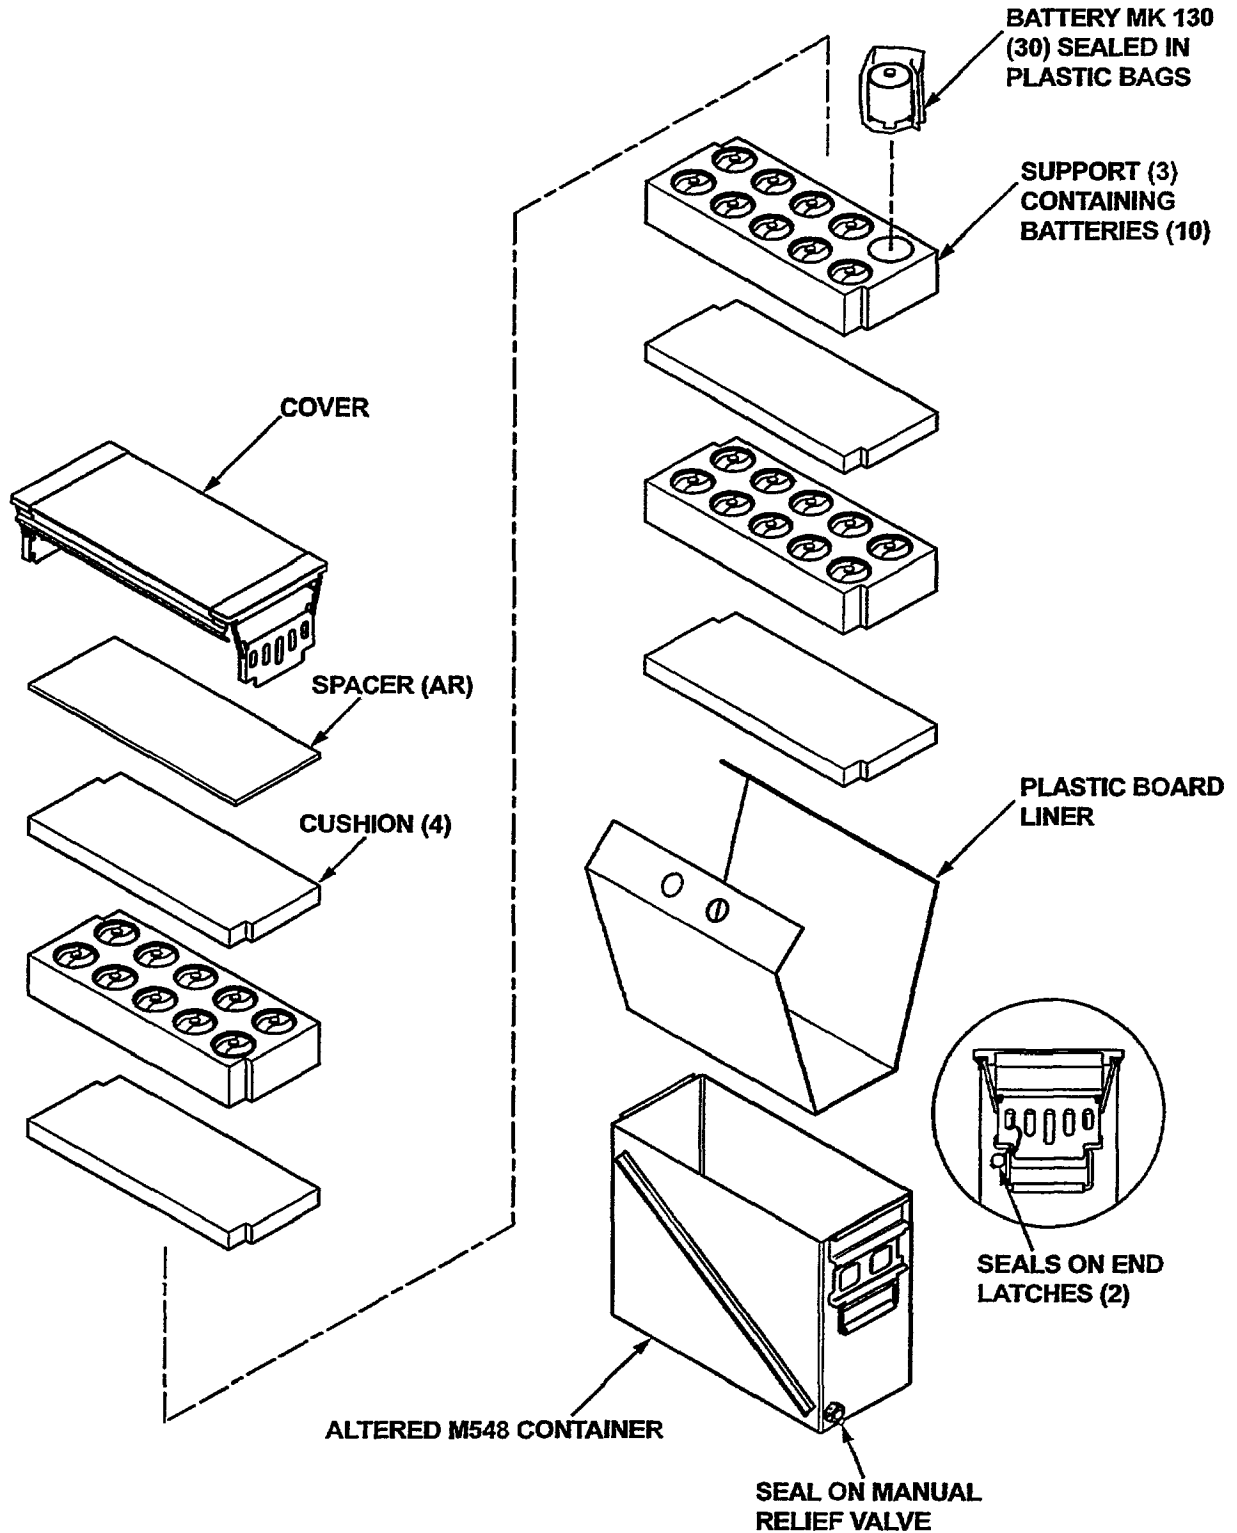

Figure A-2. Battery Mk 130 Mod 1 Repackaging
A.2.2 BATTERY MK 130 MOD 1 REPACKAGING (Figure A-2)